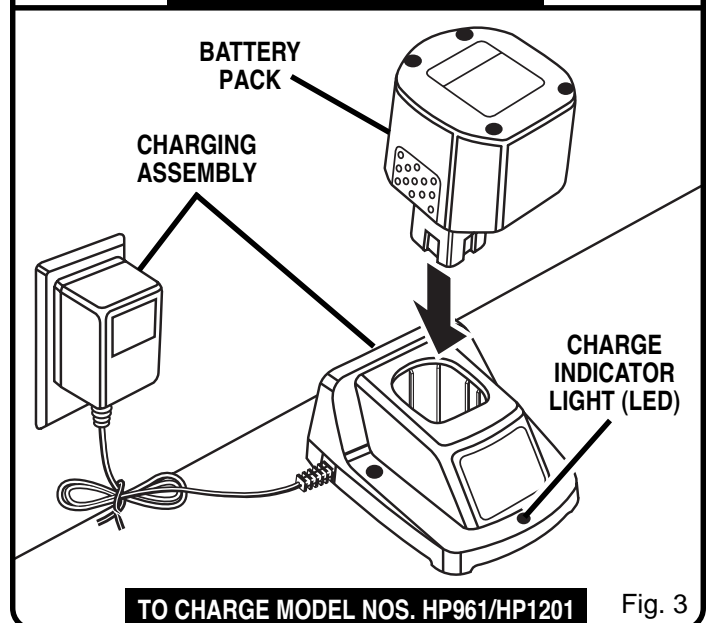

Fig. 3
- Place battery pack in charging assembly. Align raised rib on battery pack with groove in charging assembly. See Figure 3.